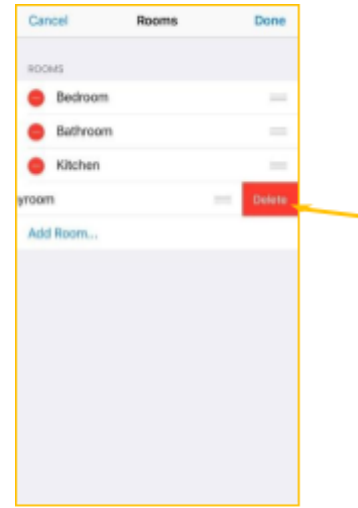

Figure 40
**10.9.6.** Click **Delete** (Fig. 40).